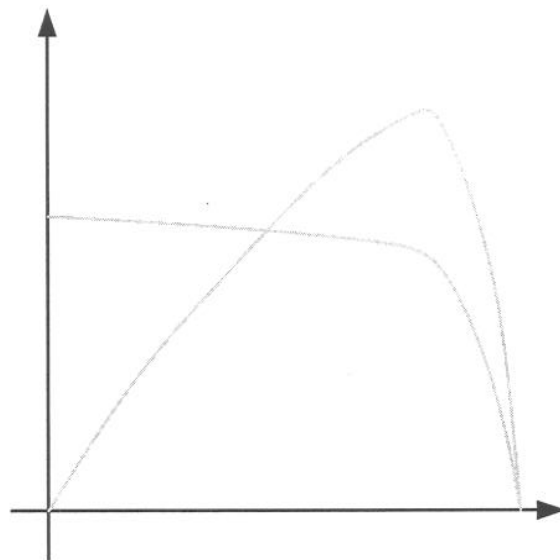

Figure 3.1
- d) Explain how the “perturb and observe” maximum power point algorithm works. Illustrate your explanation with annotations on graphs of current vs. voltage and power vs. voltage. Show at least three operating points starting from the open-circuit condition. You may find useful to use the curves in figure 3.1 (provided here without any labels). [8]